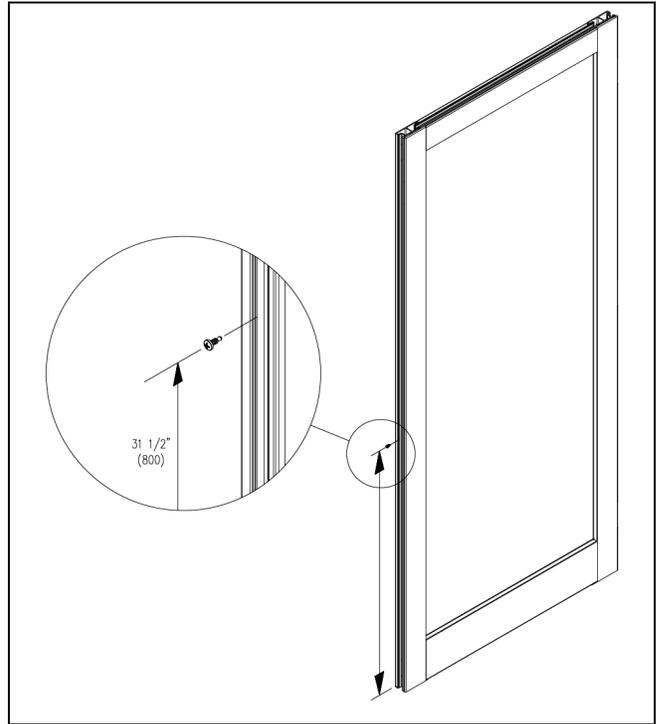

Figure 4
4. Drive a #8 x 1/2" pan head screw into the mull side stile 31 1/2" (800) from the bottom of the panel drip as shown in Figure 4.